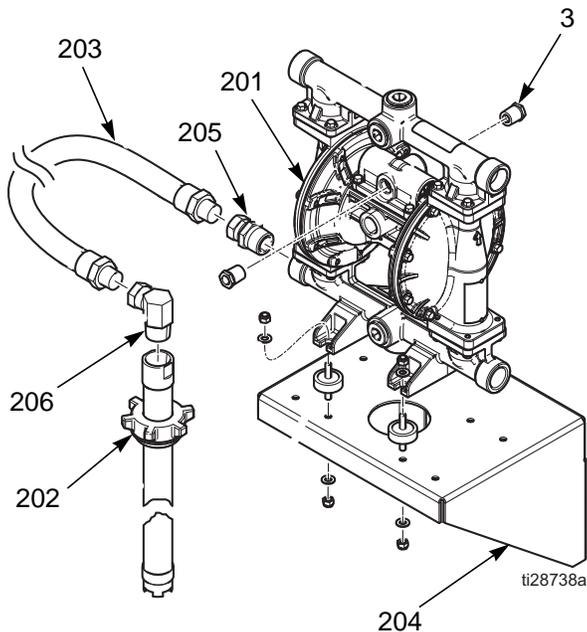

FIG. 2. Husky 1050 Wall Mount
2. Position wall bracket (204) no more than 5 ft (1.52 m) above floor. Check that bracket is level. Attach to wall, using screws long enough to keep bracket from vibrating. See FIG. 2.
3. Connect swivel union (205) to pump inlet.
4. Install bushing (3) in pump air inlet.
5. Install pump (201) on bracket (204) securely, using provided dampeners, washers, and lock nuts.
6. Connect elbow (206) to top of riser tube kit (202).
7. Connect suction hose (203) to elbow (206) and inlet swivel (205).